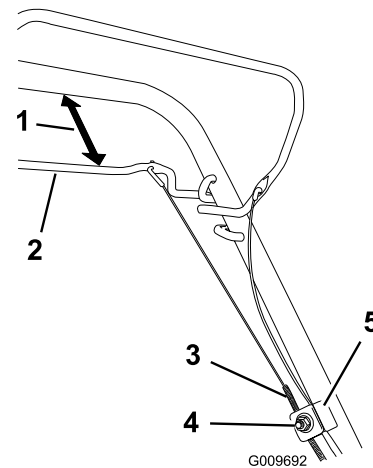

Figure 21
1. Loosen the cable-support nut (Figure 21).
2. Hold the self-propel bail 1 to 1-1/2 inches (25 to 38 mm) from the handle (Figure 21).
3. Pull down the cable jacket (toward the machine) until there is no slack in the cable (Figure 21).